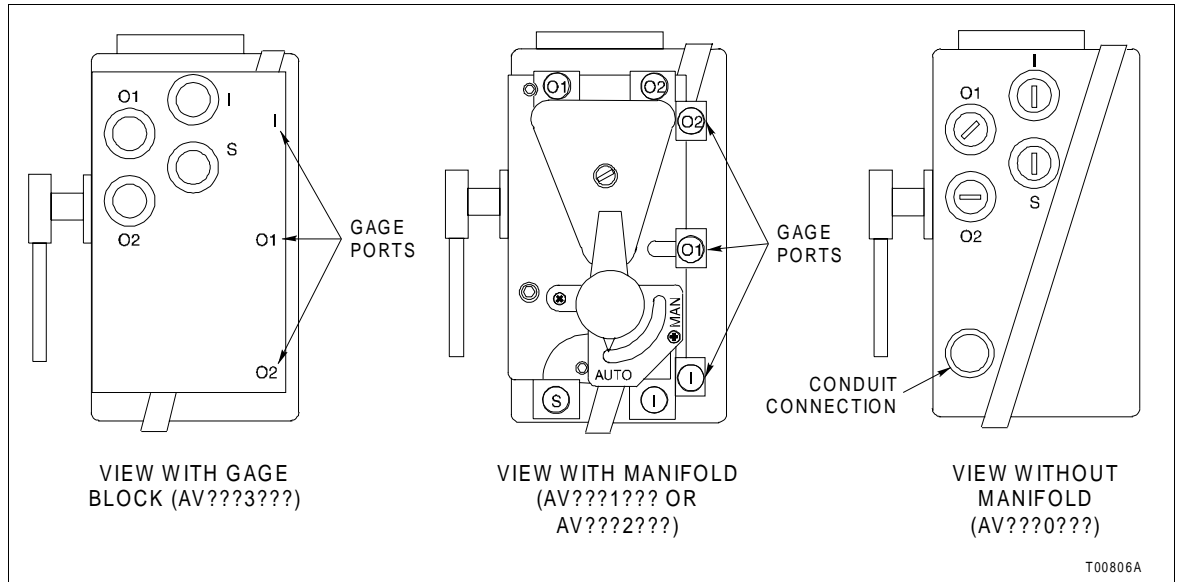

Figure B-5. Type AV Positioner Port Locations
1. Connect the required supply air to connection (Fig. B-5).
Connect the signal wiring using $\frac{1}{2}$ -inch NPT conduit. Figure B-5 shows the location of the conduit connection. Refer to Figure B-8